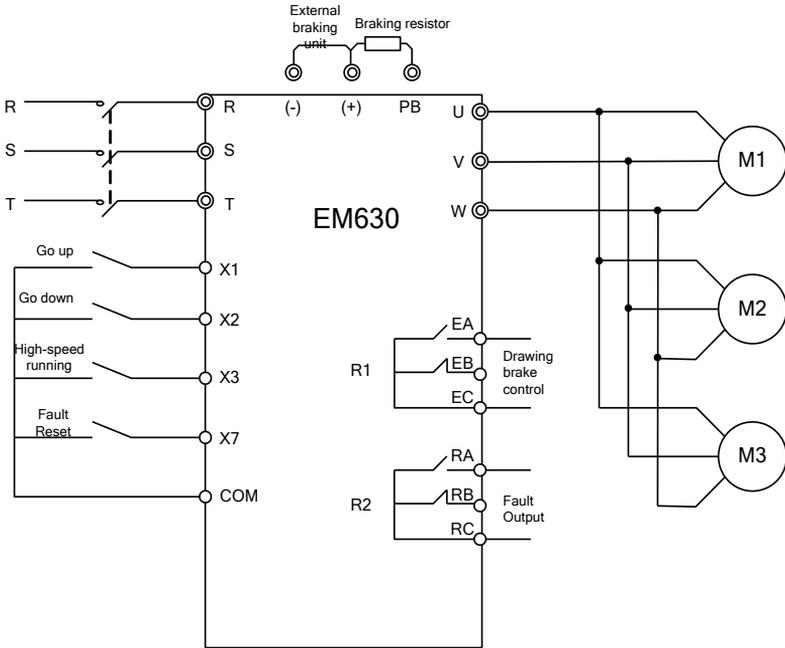

Figure 13–2 Wiring Diagram of EM630 Inverters for Elevator Application
2. If F20.00=5 or 6 is selected for EM630 inverter for elevator application, then functions of Xi, R1 and R2 shall be configured as per Figure 13–2.